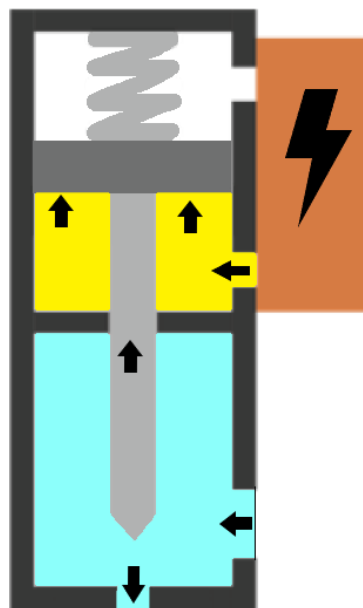

Figure 04 – Dosing phase
- The piston is raised, which raises the needle, thus allowing dosing to be carried out (Figure 04);